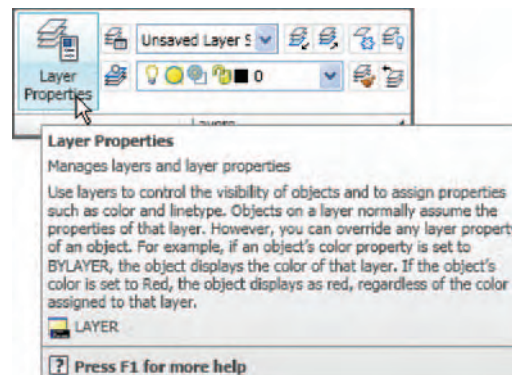
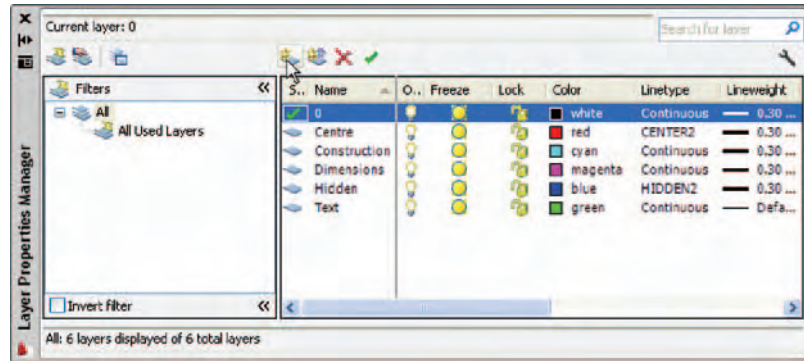

Fig. 4.16 The Layer Properties Manager icon in the Home/Layers panel
Fig. 4.17 The Layer Properties Manager dialog
1. *Left-click* on the **Layer...** tool icon in the **Home/Layers** panel (Fig. 4.16). The **Layer Properties Manager** dialog appears on screen (Fig. 4.17).